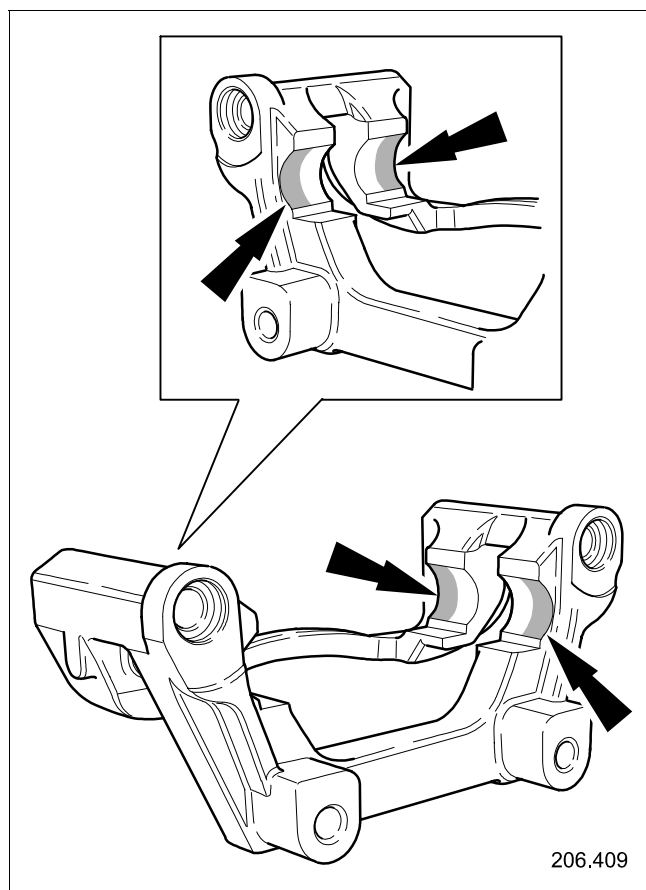

Fig. 1
- 5 Apply silicone grease to the brake caliper carrier at the four brake pad support areas (see Fig. 1).